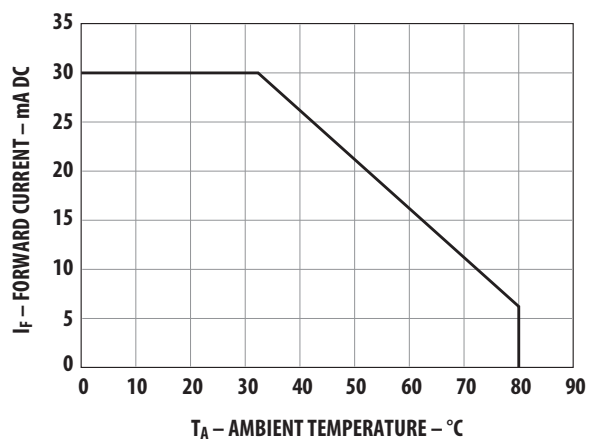

Figure 6. Maximum DC forward current vs. ambient temperature. Derating based on T_J max. = 115°C
1. Derate linearly from 50°C as shown in Figure 6.